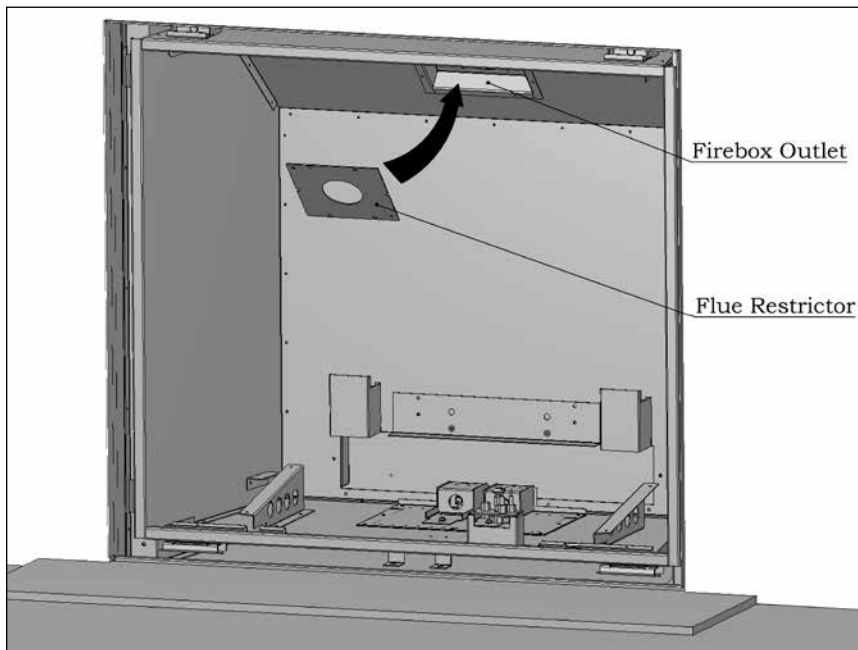

Figure 25: Installation of Flue Restrictor.
- 5) Using the two (2) ¼" T-20 screws provided with the restrictor, fasten the Restrictor into the Flue Outlet as shown in Figures 25 & 26. Make sure the diagonal holes line up with the diagonal holes located in the Flue Outlet Box Use a powered driver to drive the screw in. Be careful not to over-torque the screw and strip the threads.